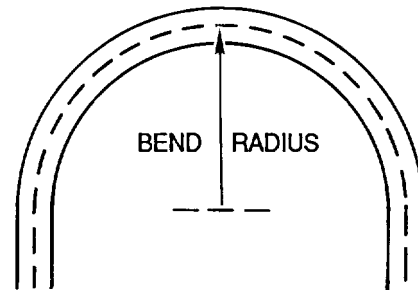

Figure 1. Bend Radius
12. **BEND RADIUS.** The maximum amount a cable can be bent without causing damage to the conductor or insulation is referred to as minimum bend radius (Figure 1).